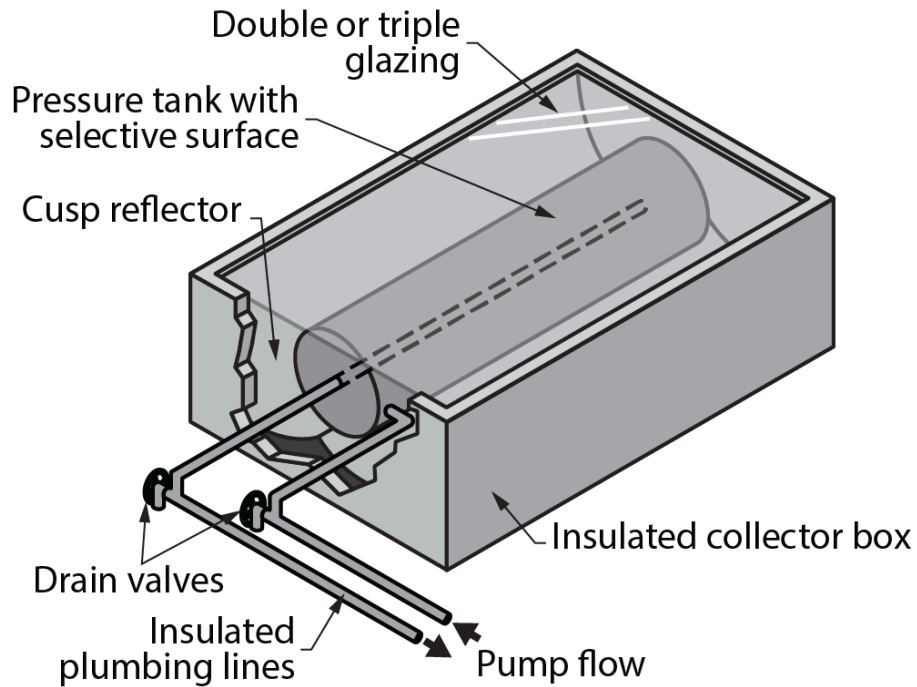

Figure 16 ICS collector. (Skilled Trades BC, 2021) Used with permission.
Integral collector storage (ICS) collectors (also called batch or breadbox water heaters, Figure 16) combine the collector and storage tank into an insulated box with a glazed side facing the sun. The sun shining into the collector strikes the storage tank, directly heating the water inside it. In colder climates, the use of double glazing and selective surfaces prevents freeze damage to the collector. In even mildly cold climates, insulation needs to be installed and maintained to prevent supply and return pipes from freezing.
- **Integral collector storage (ICS):** consists of one or more storage tanks placed in an insulated box with a glazed side facing the sun (mentioned above, Figure 16). During the winter, the connecting piping must be protected from freezing or be drained.